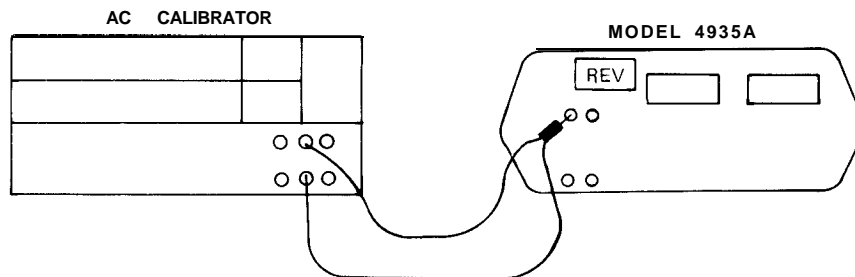

Figure 4-7. Count Limit Test
1. Connect equipment as shown in Figure 4-7.